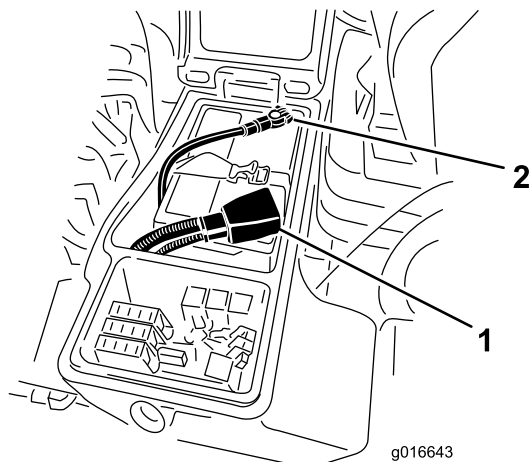

Figure 58
4. Install the positive cable (red) to the positive (+) terminal and the negative cable (black) to the negative (-) terminal of the battery (Figure 58). Secure cables to posts with capscrews and nuts. Make sure that the positive (+) terminal is all of the way onto the post and the cable is positioned snug to the battery. The cable must not contact the battery cover. Slide the rubber boot over the positive terminal to prevent a possible short from occurring.